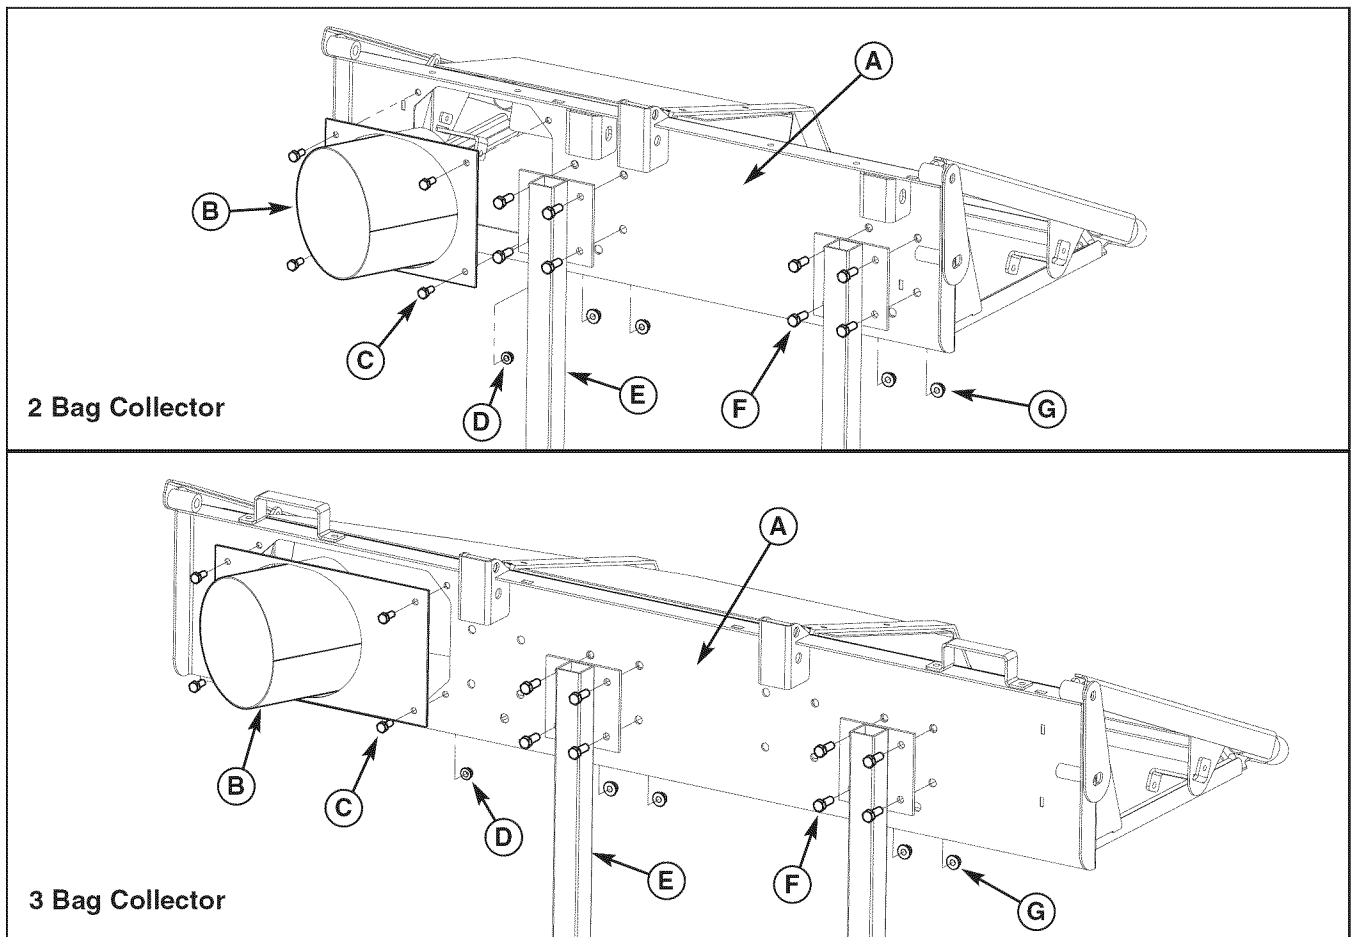

Figure 42. Assemble Collector Hood
1. Install the inlet tube (B, Figure 42) to the collector back plate (A) and secure with the 5/16-18 x 3/4" bolts (C) and 5/16-18 nylock flange nuts (D).
2. Install the mount posts (E) on the back plate and loosely secure with the 3/8-16 x 1" bolts (F) and 3/8-16 nylock flange nuts (G).